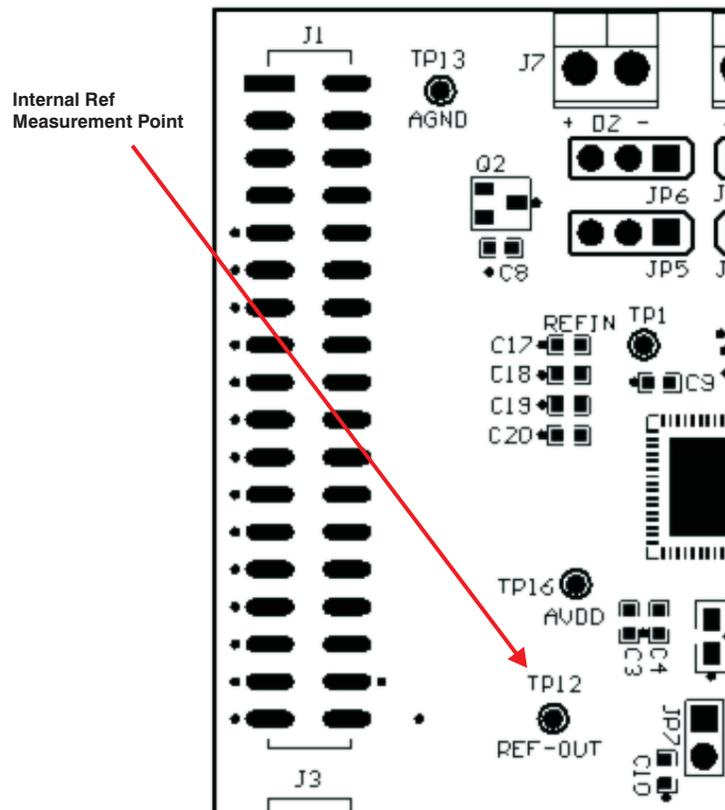

Figure 5. AMC7812 REF\_OUT Pin Location
In the middle of the bottom area of the GUI, the control button can be used to turn the AMC internal reference circuitry on or off. The internal reference voltage can be measured at the test point (TP) of REF\_OUT on the AMC7812EVM board; the location of this area is indicated in Figure 5.